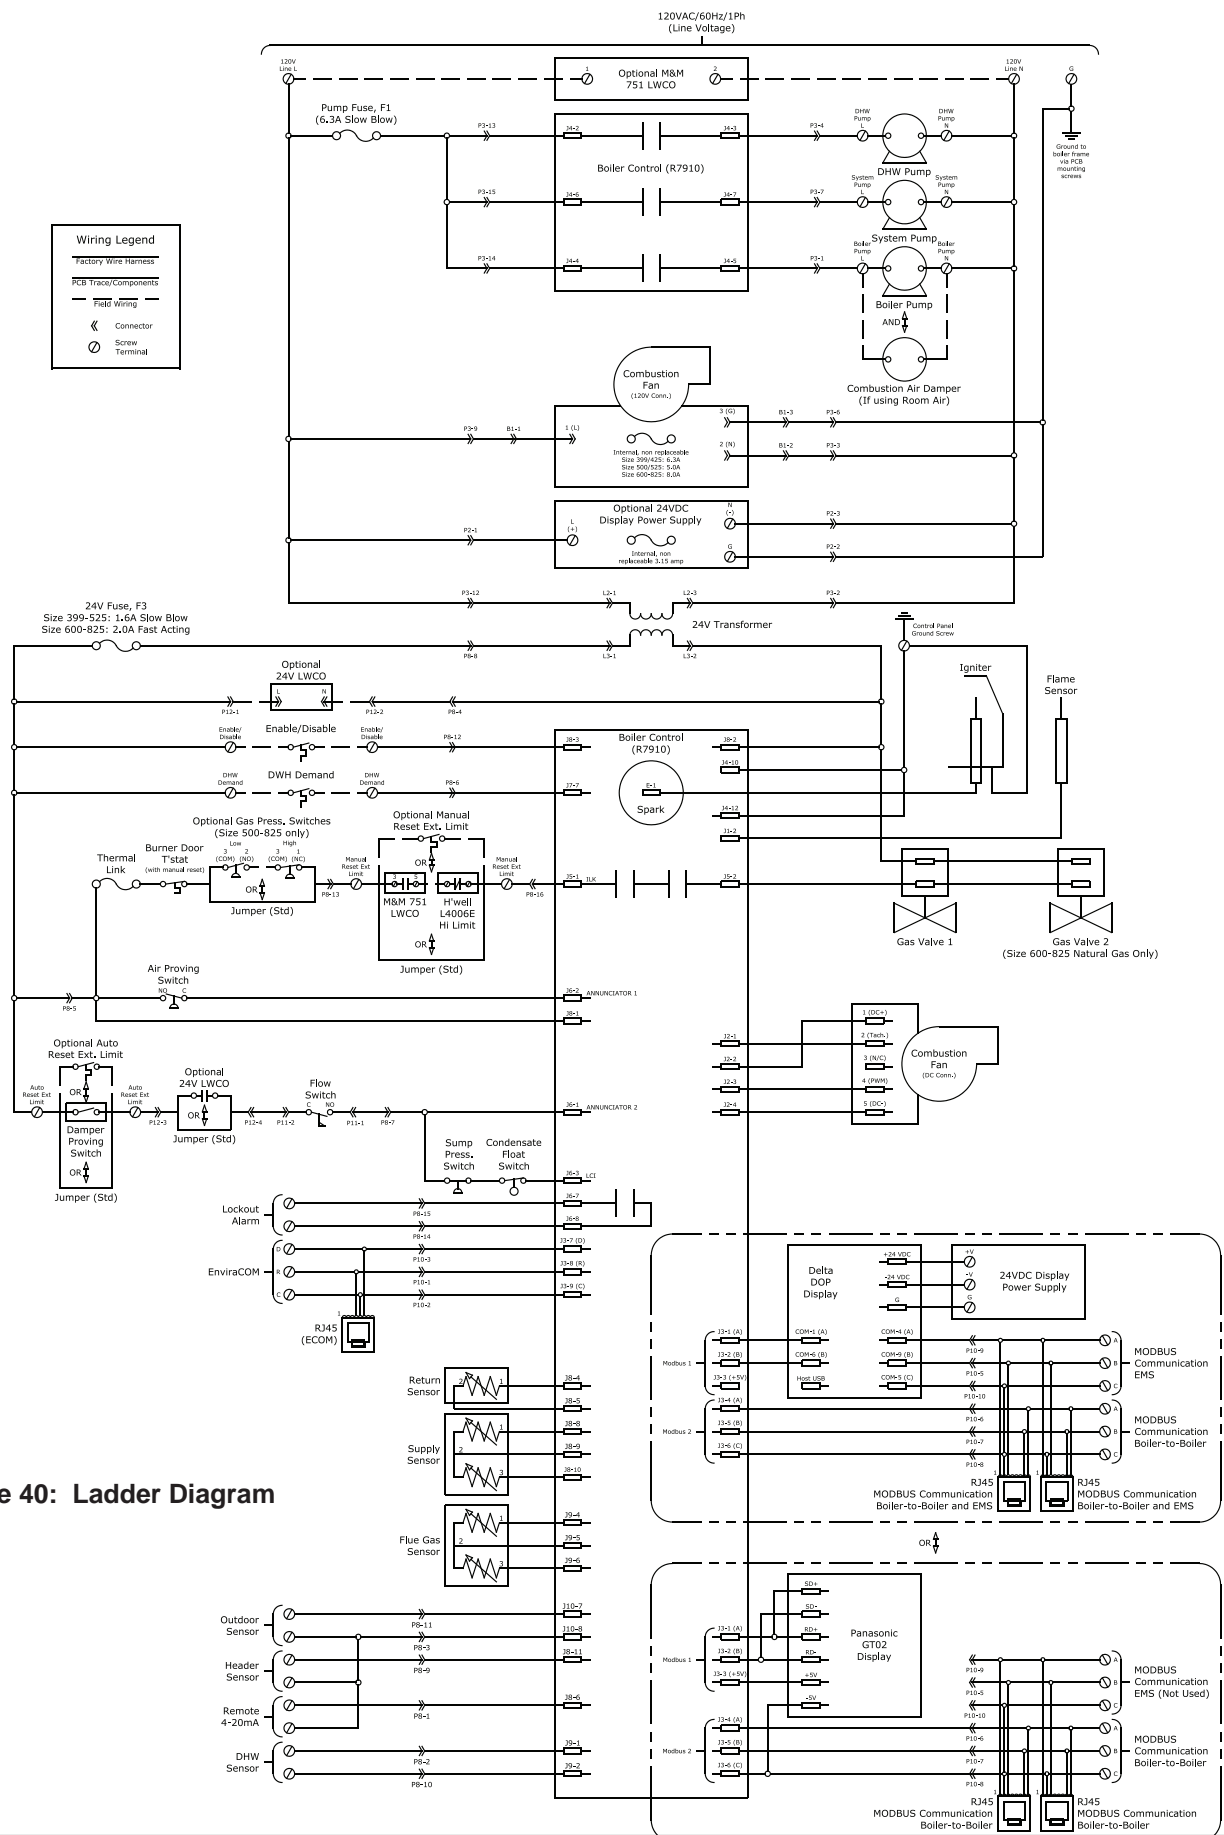

Figure 40: Ladder Diagram
D. Boiler wiring. Refer to Figures 40 and 41.
Alternately, the network can be wired together by simply wiring Modbus Boiler-to-Boiler terminals A, B, and C between each boiler. Refer to Figures 40, 41 and 44 for wiring location.